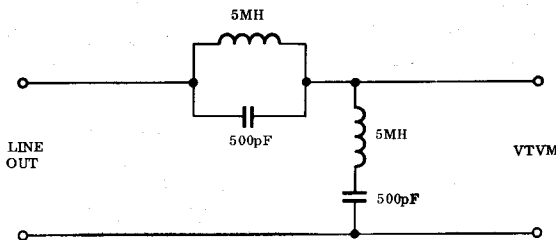

Fig. 5-3 Bias Filter
This procedure, which is not applicable to reproduce-only equipment, is most easily made by using a bias filter (see Fig. 5-3). If such a filter cannot be constructed, a trial-and-error method must be employed where the tape is first recorded as in Steps 2, 3, and 4 at different settings of the record equalization, then reproduced to determine proper setting.
- *Bias Filter (see Fig. 5-3)
This check can be made while simultaneously recording and reproducing if the bias filter (see Fig. 5-3) is available. If this is not the case, record the tape and then rewind and make the response run.